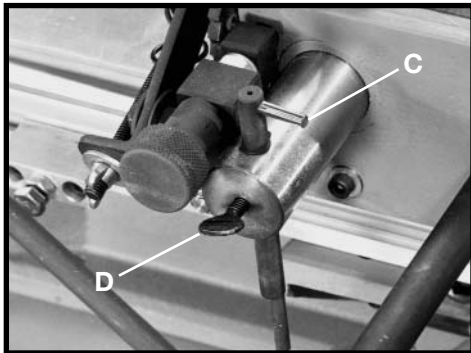

Fig. 48
4. Point the follower arm lever (C) Fig. 48 to the right, and tighten wing screw (D).